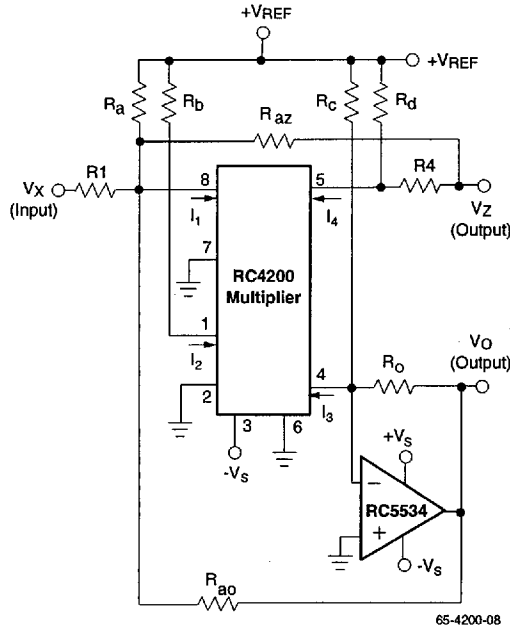

Figure 6.
1. Refer to Figure 6 for example.
3. These specifications apply with output (b) connected to an op amp summing junction. If desired, the output (b) at pin (4) can be used to drive a resistive load directly. The resistive load should be less than 70Ω and must be pulled up to a positive supply such that the voltage on pin (4) stays within a range of 0 to +5V.